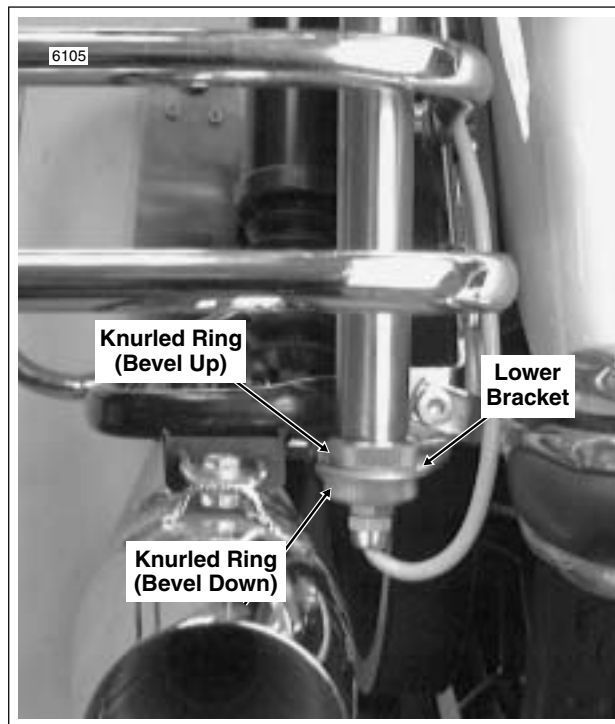

Figure 8-18. Install Pole Lamp
5. Install knurled ring at bottom of pole with the beveled side up. See Figure 8-18.